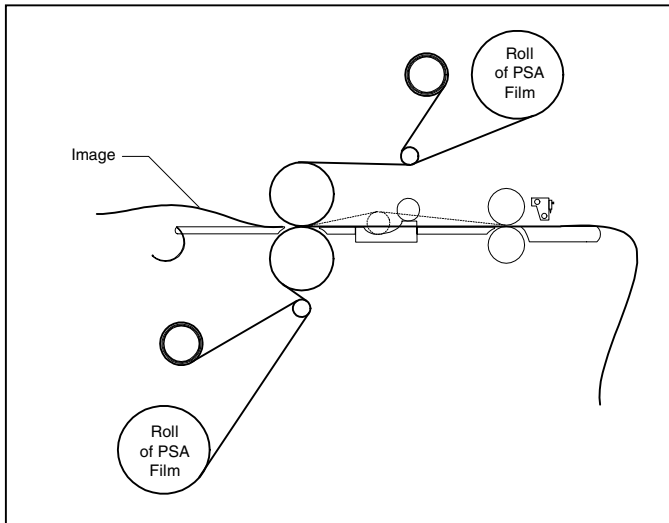

Fig. 41
TIPS FOR PSA ENCAPSULATION (Figure 41)
1. Load the laminator as illustrated in Figure 41.